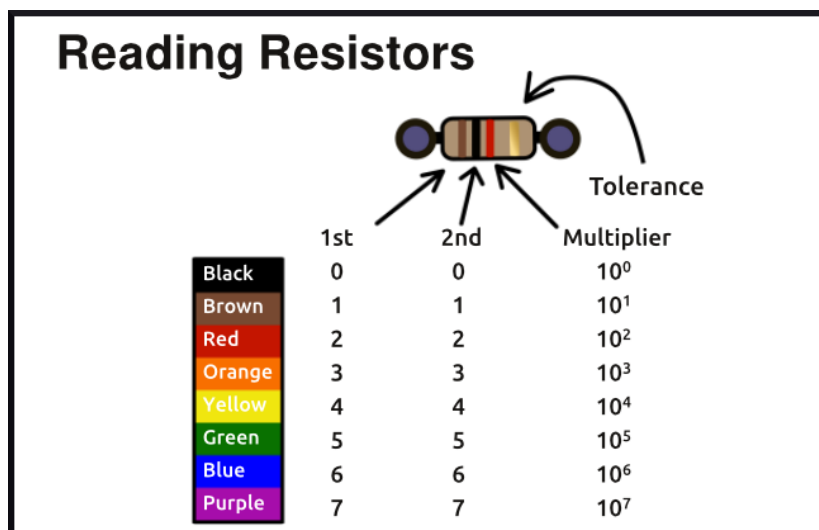

Figure 3. Resistance Color Code.
- Now, get a 330-ohm resistor, and verify its value based on the color code, shown in Figure 3.